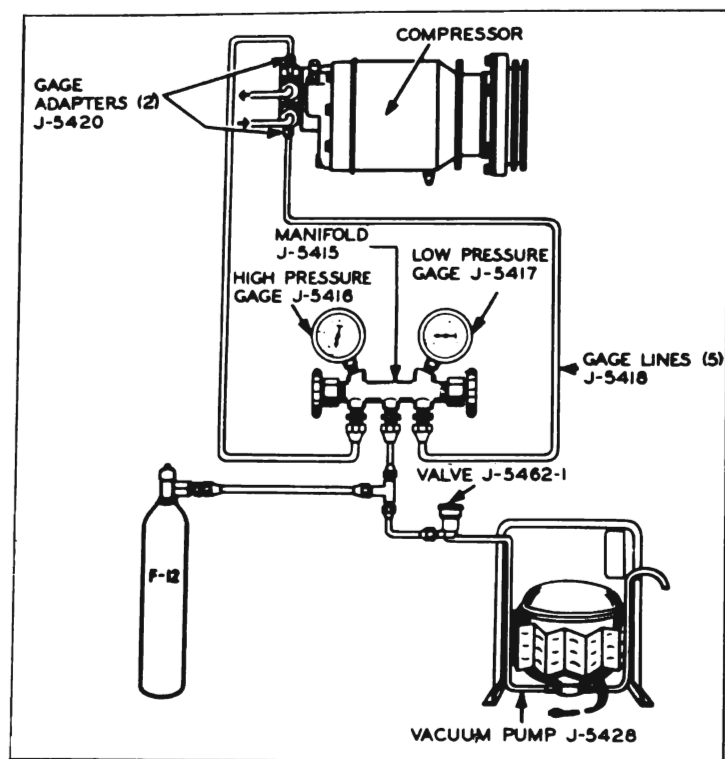

Figure 11-37—Service Charging Hook-Up
1. Attach gauge lines and vacuum pump set-up as shown in figure 11-37.
1. Hook up gauges, lines and Freon 12 Cylinder as shown in Figure 11-37, but substitute a bottle or other suitable container in place of the vacuum pump. The container is to catch the evacuated oil so it may be measured and a like amount of clean oil replaced. Be sure that the fitting on the discharge valve is open to the compressor with no restriction from valve closures, caps, or plugs in the attached line before starting the engine.
1. With the vacuum pump, Freon-12 cylinder and gauge set connected to the compressor as shown in Figure 11-37, place the cylinder in a bucket of hot water which does not exceed 125°F.